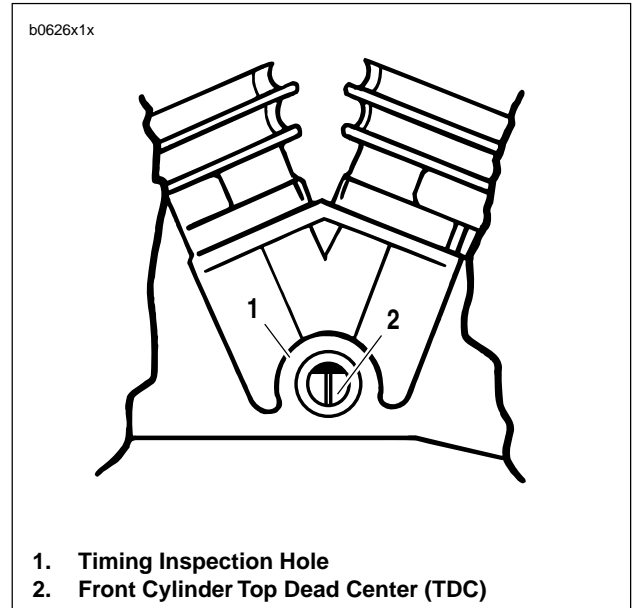

Figure 1-47. Timing Marks
- See Figure 1-47. Rotate rear wheel until TDC mark (2) is centered in timing inspection hole.